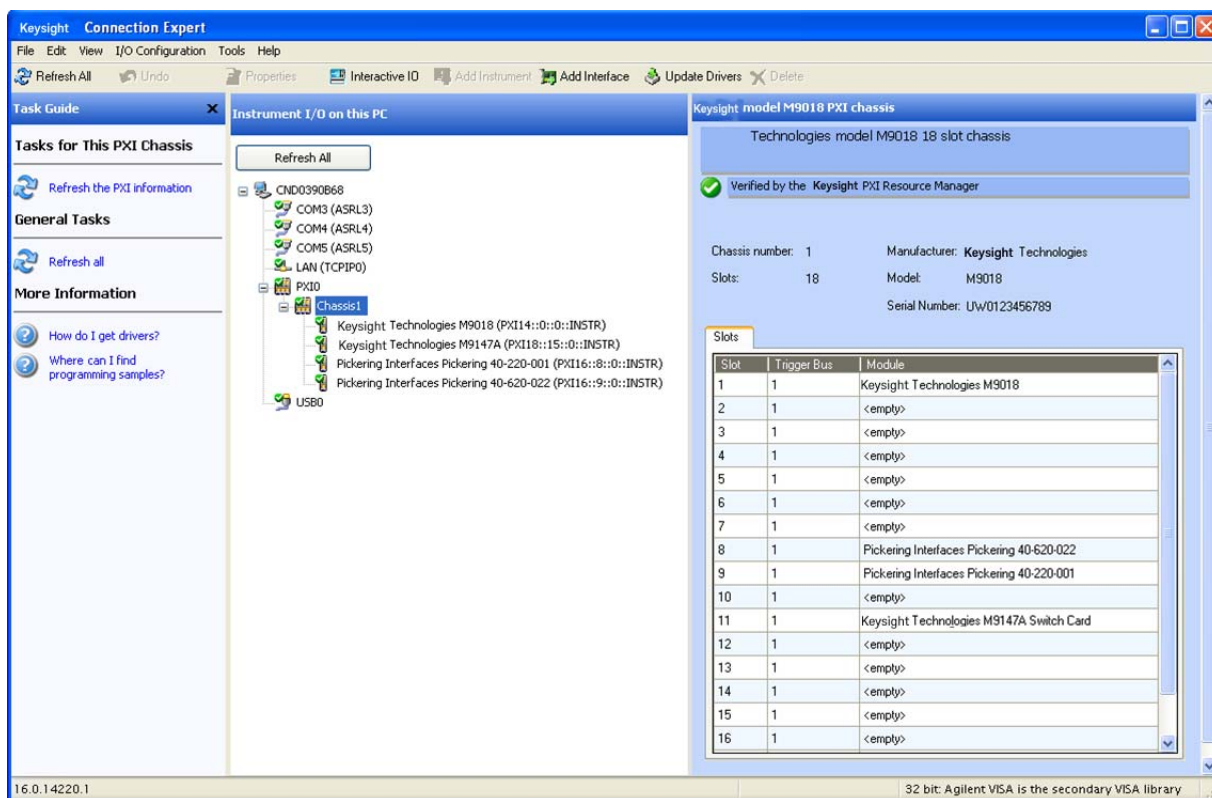

Figure 8 Connection Expert display of the chassis contents
- 1 First, start Connection Expert on the host controller. Once Connection Expert is running, a chassis indicator should appear under the PXIO label in the Instrument I/O on this PC pane as shown in Figure 8—in this case, the chassis indicator is “Chassis1”. Clicking “Chassis1” displays the contents of each slot in the M9018A chassis in the right pane under the label Keysight model M9018A PXI chassis.